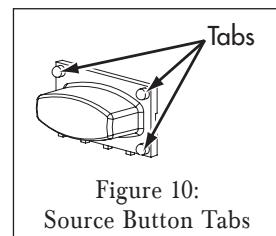

Figure 10:
6. Place all four of the desired Source buttons into the keypad bezel. The tabs on the buttons will fit-into the depressions adjacent to the openings on the back of the bezel (see Figure 10).